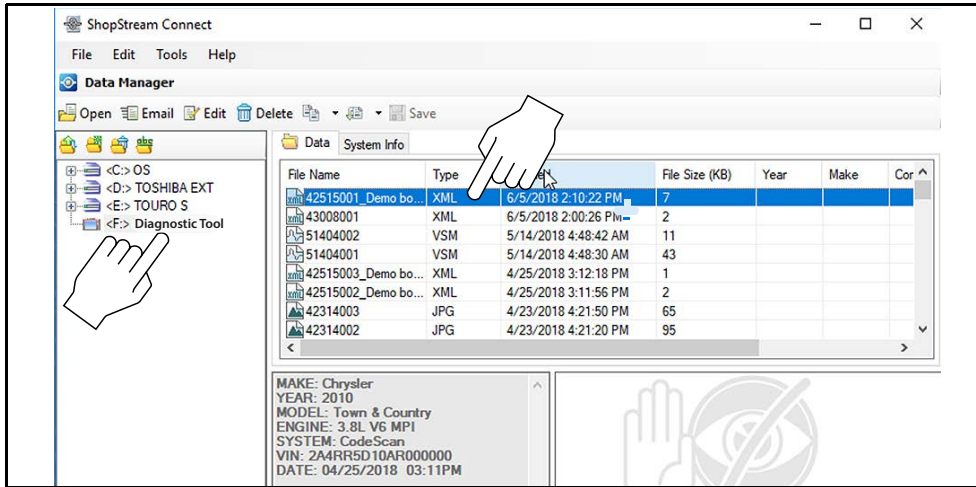
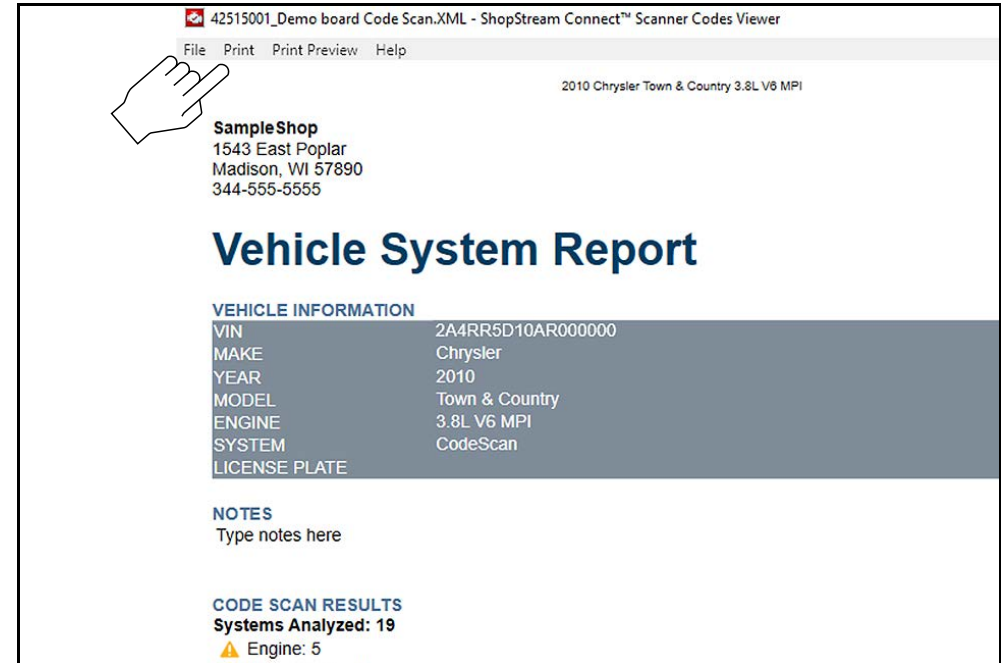

Figure 13-5
Figure 13-6
1. Double-click the code scan .XML file from the file list to open the Vehicle System Report (Figure 13-5) in the Code Scan Viewer (Figure 13-6).
2. Select **Print** or **Print Preview** from the Code Scan Viewer menu to print or preview the Vehicle System Report (Figure 13-6).